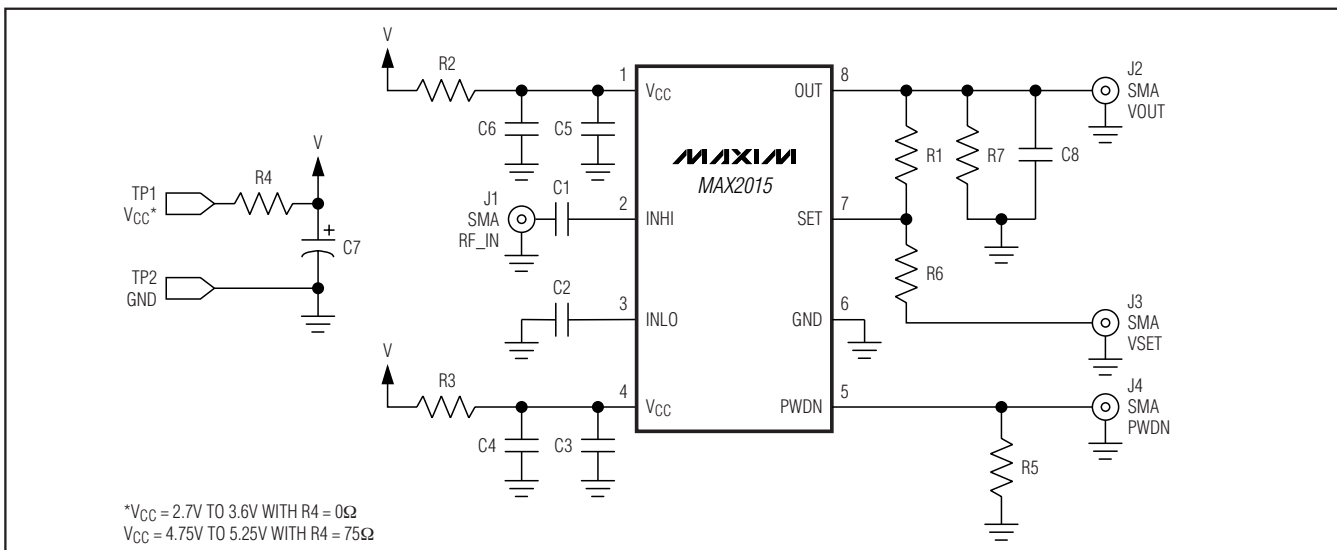

Figure 3. MAX2015 EV Kit Schematic
*See EV Kit Schematic (Figure 3).